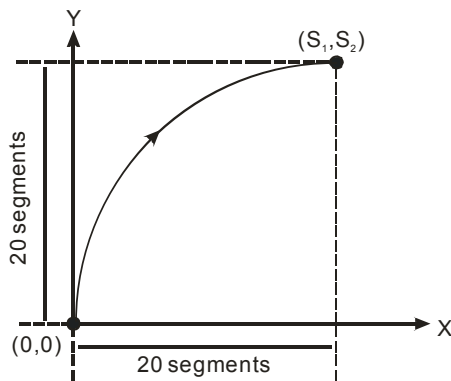

Figure 7
3. The lower 16 bits of **S** (the settings for the direction and resolution): K0 refers to clockwise 20-segment output for a 90° arc (see figure 7). K1 refers to counterclockwise 20-segment output for a 90° arc (see figure 8).